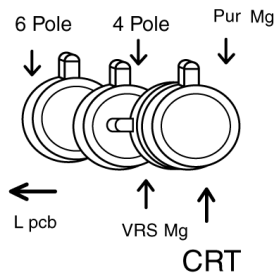

FIG. 11
- Set DY to CRT not to tilt up and down and left and right deflection. (Fig. 11)